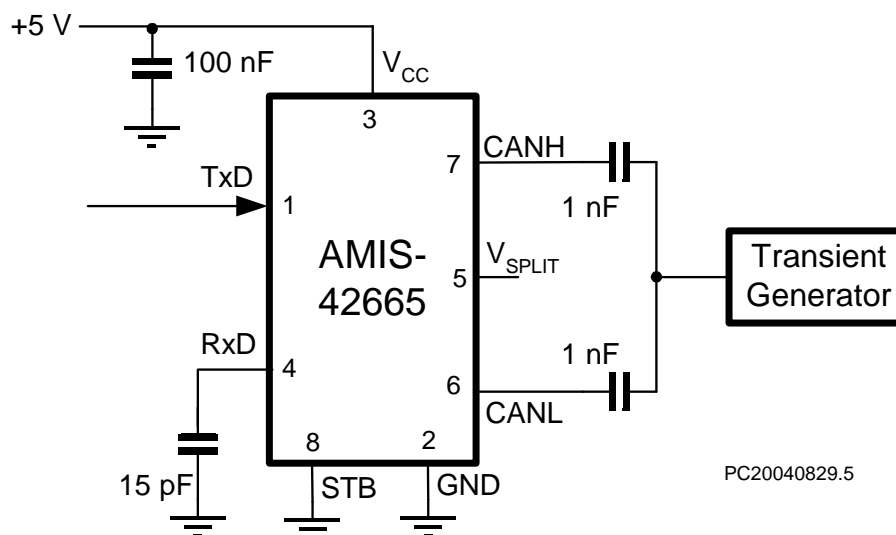
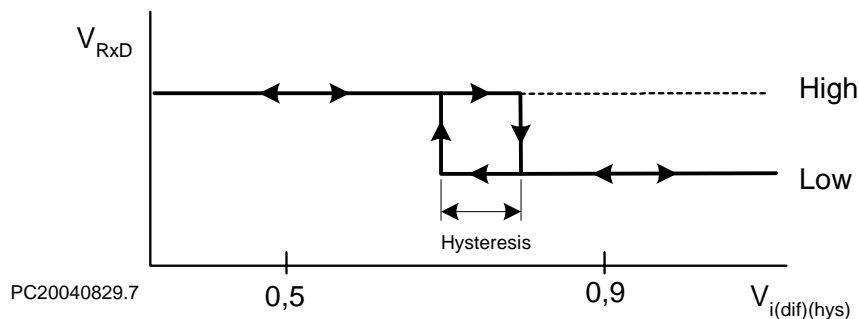

Figure 4: Test Circuit for Automotive Transients
Figure 5: Hysteresis of the Receiver
- 1) Applied transient waveforms in accordance with ISO 7637 part 3, test pulses 1, 2, 3a, and 3b (see Figure 4).
Timing Characteristics (see Figure 4 and Figure 5)